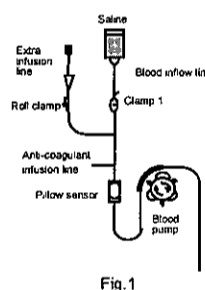

Fig. 1
- 3) Insert the pump tube into the pump and the pillow sensor into the pillow sensor unit (Fig. 1).